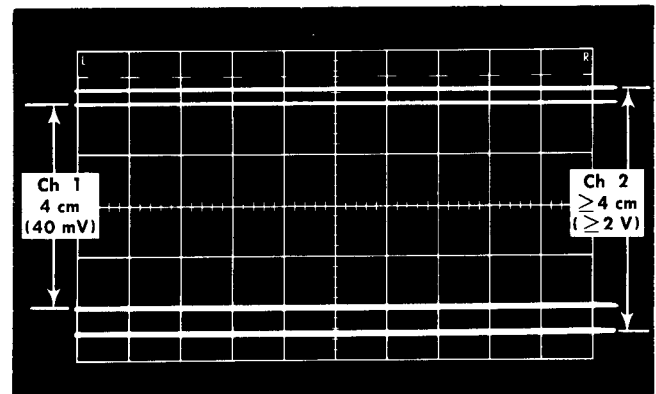

Fig. 6-10. Typical CRT display showing adequate trigger-amplifier voltage gain (double-exposure photograph). Sweep rate: $10 \mu\text{s/cm}$ free running.
e. Check that the Type 106 +Transition Amplitude control is set to obtain a 4-cm amplitude display for Channel 1 (see Fig. 6-10).
f. Use the oscilloscope and Type 1A4 POSITION controls, as necessary, to position the dual-channel free-running displays similar to the locations shown in Fig. 6-10.
b. Substitute a compensated Type P6008 10× Probe for the 50-ohm cable as follows: Disconnect the 18-inch 50-ohm cable from the SIGNAL OUTPUT and Channel 2 Input connectors. Connect the cable end of the compensated 10× probe to the Channel 2 Input connector. Attach a probe-to-male BNC connector adapter (item 12) to the tip of the 10× probe. Connect the probe tip with adapter to the SIGNAL OUTPUT connector.